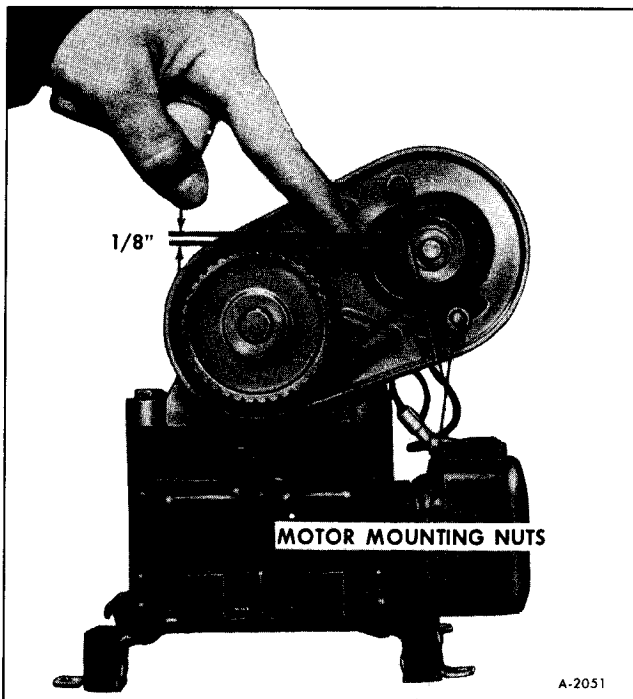

Figure 2-Water Pump Belt Tension
To obtain maximum life from the water pump belt it should be adjusted to obtain 1/8" deflection as shown in Figure 2.
1. Remove two (2) nuts as shown in Figure 2 and remove belt.
3. Remove two (2) screws securing motor mount to the jack shaft assembly.